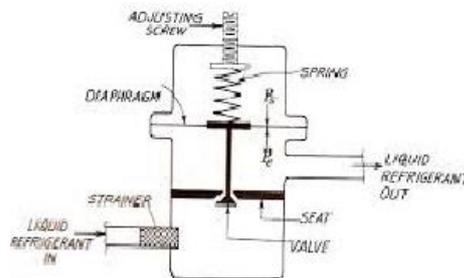

Figure 3: Schematic diagram of an automatic expansion valve
6) Figure 3 below shows an automatic expansion valve. Explain how it functions in a refrigerating installation